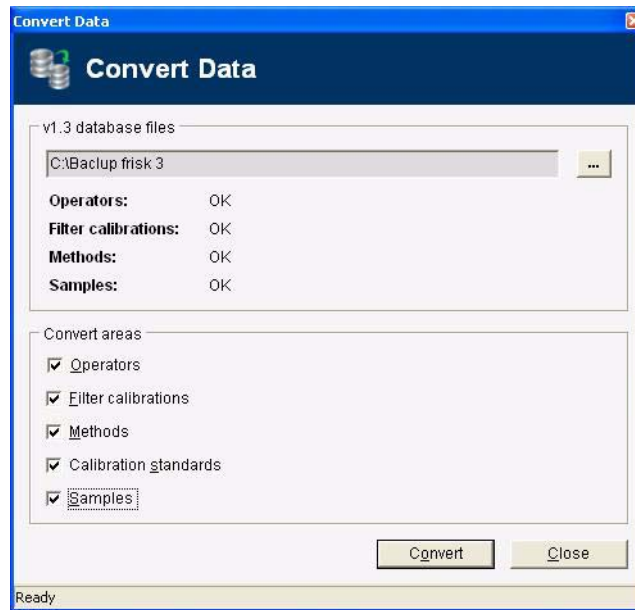

Fig. 5:40 Convert data menu
- Next, select areas you want to be included, see Fig. 5:40 .